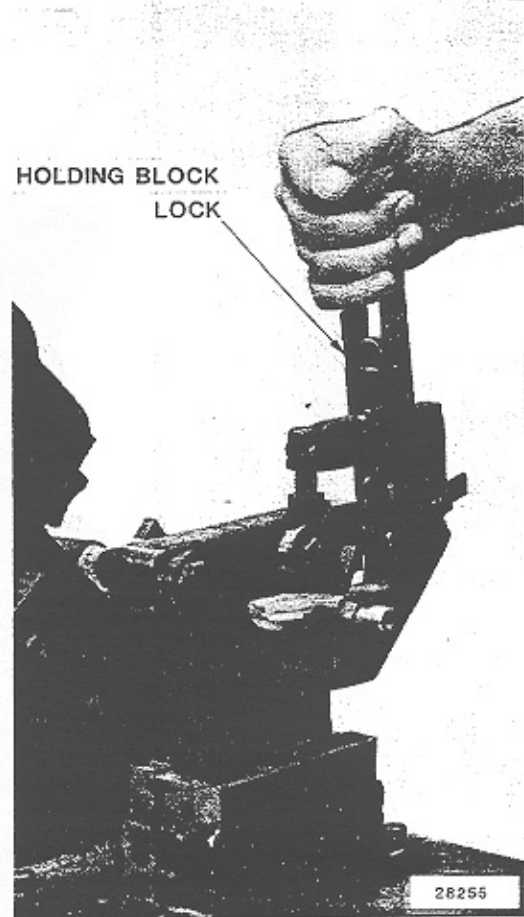

Fig. 40 - Locking Clasp Connector in Position
4. Swing the holding block over onto the connector and lock in place as shown in Fig. 40.